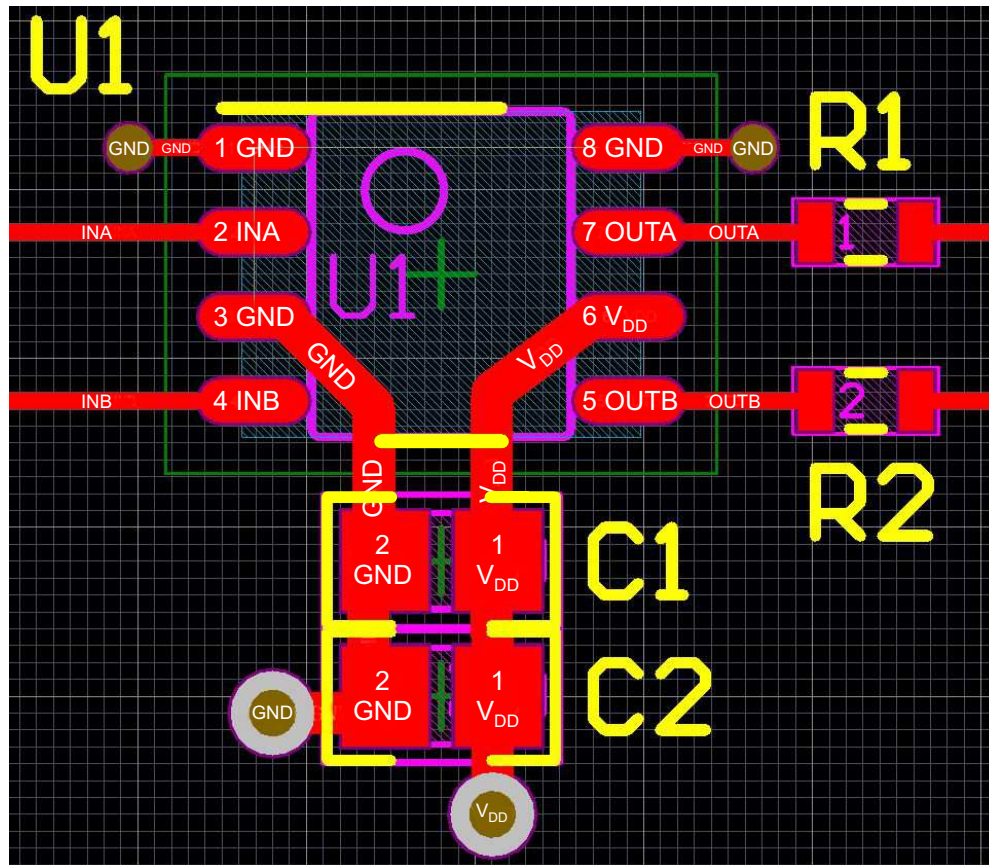

Figure 12. UCC27324-Q1 Layout Example
- Locate the  $V_{DD}$  bypass capacitors between  $V_{DD}$  and GND as close as possible to the driver with minimal trace length to improve the noise filtering. Place these capacitors as close to each other as is allowed, as shown by C1 and C2 in Figure 12 which ensures minimal trace inductance and gives the effect of a *capacitor bank*. These capacitors support high peak current being drawn from  $V_{DD}$  during turn-on of the power MOSFET. The use of low inductance surface mount components is highly recommended.